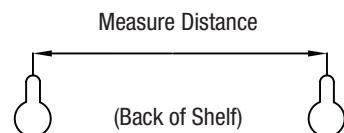

Figure 1
STEP 2: Draw a line on the wall using the level in order to determine where the screw holes will be located. Measure the distance that will be required between the screws in order to mount the Wall Cube. Mark the positions of the screws in the desired locations as shown in **Figure 1**.